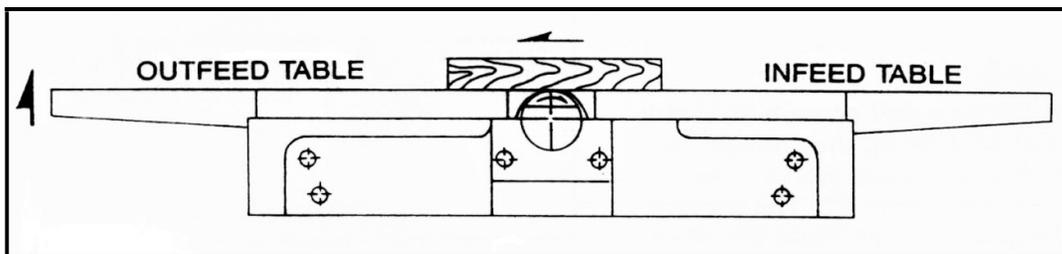

Fig. 22
1. Finished stock is concaved on the end.	<ul style="list-style-type: none"> ● Check whether the knife tip is higher than outfeed table. ● Raise outfeed table so that the surface and knife tip line are on same level as shown in Fig. 22